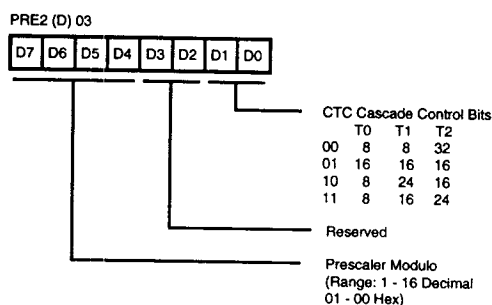

Figure 20. T2 Prescaler Register (PRE2)
are not TTL. The crystal should be AT cut, 1 MHz to 25 MHz max, and series resistance (RS) is less than or equal to 100 Ohms. The crystal should be connected across XTAL1 and XTAL2 using the recommended capacitors (10 pF < CL < 100 pF) from each pin to ground (Figure 20).